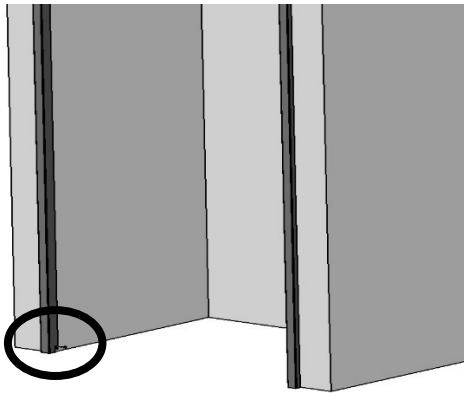
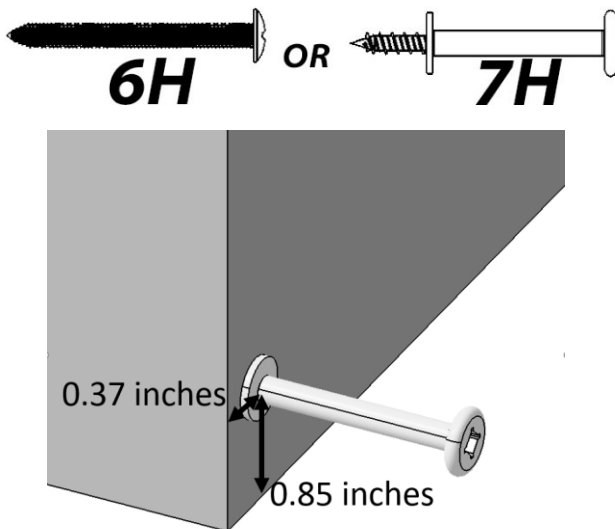
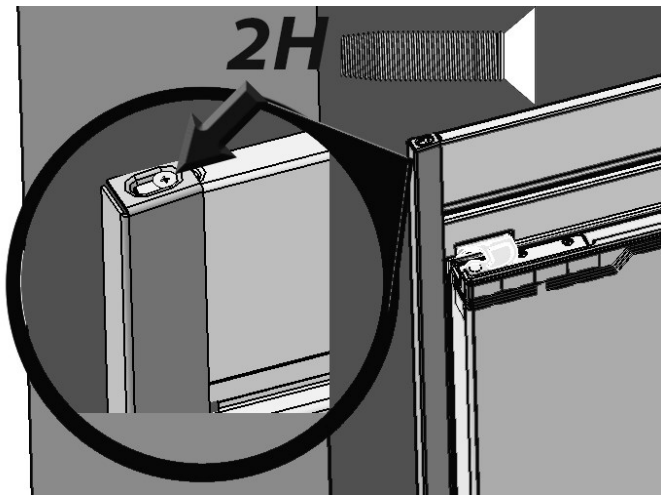

Figure 16
Figure 17
Figure 20
6. Depending on which long screw you received (6H or 7H), screw a long screw in the lower left area (Figure 16) of the front cabinet space, approximately in the location described in Figure 17.
10. a. Place side trims in position by dropping them over the placement screw as seen in Figure 16 and fitting over the top trim (Figure 20).
- b. Fasten 2H screw to each side of top trim (Figure 20).